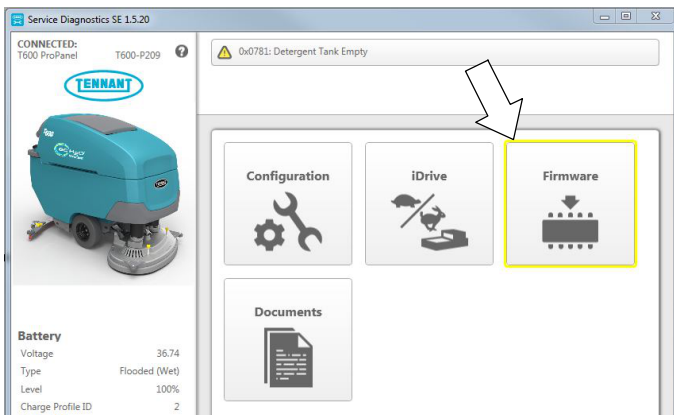

Fig. 19
- Once connected, the home screen will appear (Figure 19). If firmware updates are required, the “Firmware” button will be highlighted in yellow as shown. Press the button to update the machine’s firmware.